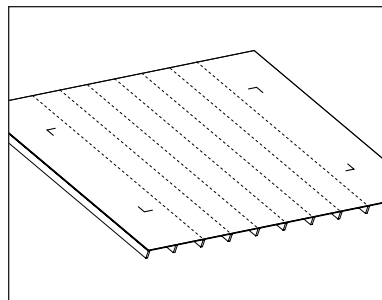

Figure 5.3B
3. Locate the rafters and snap chalk lines to identify their locations (Figure 5.3B).